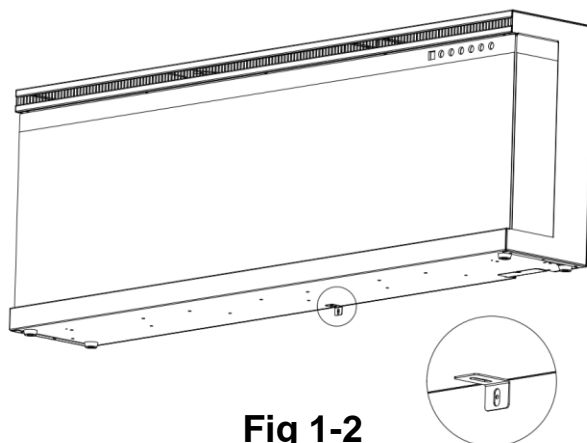

Fig 1-2
B. Using the screw previously removed, attached the L-bracket **(J)** to the bottom of the fireplace box. **(Fig 1-2)**